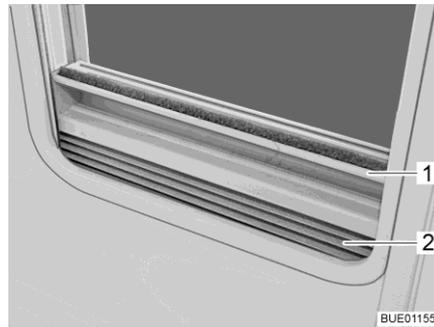

Fig. 42 Roman shade
- Closing:** ■ Grip the Roman shade (Fig. 42,2) in the middle of the holding bar (Fig. 42,1), pull it upwards and then release it at the desired height. The Roman shade will stay at this height.